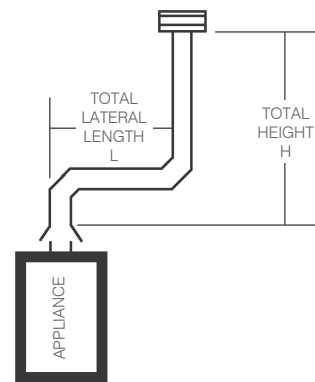

Figure 3
A *SINGLE-APPLIANCE VENT* is an independent vent for one appliance (Figure 3).
TOTAL HEIGHT (H) is the vertical distance measured between the appliance collar connection and the vent termination (Figure 3).
TOTAL LATERAL LENGTH (L) is the actual horizontal distance or length of offset between the appliance collar and the main vertical portion of vent (Figure 3).
MINIMUM TOTAL VENT HEIGHT is the vertical distance measured from the tallest appliance flue collar outlet in the system to the termination of the vent (see Figures 3 and 4). This minimum height is a fixed dimension for any one vent system regardless of the number or placement of appliances in the system.